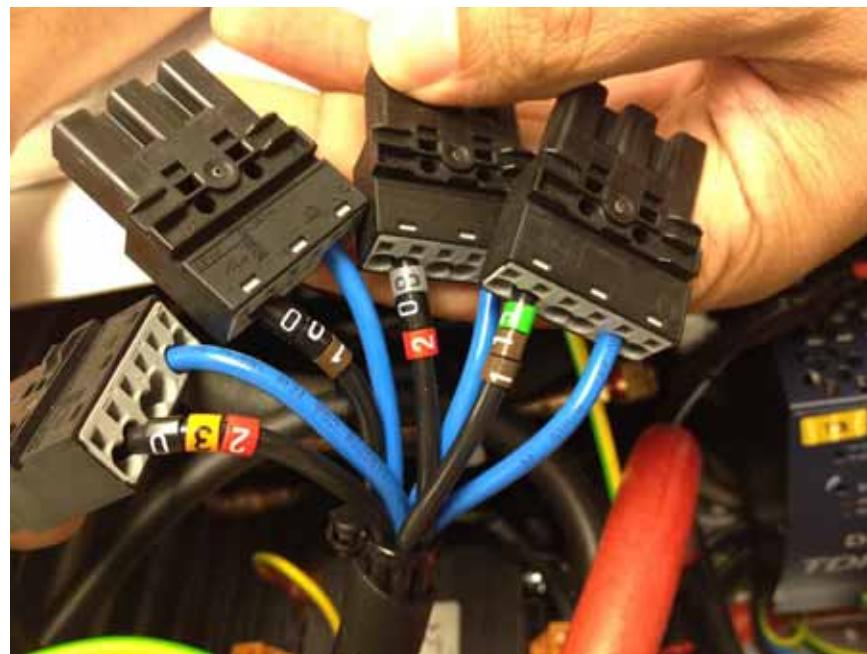

Figure 3-3. P307 Chiller Voltage Inputs (230VAC plug shown connected)
5. Check that the correct voltage plug is attached to the internal connector (see Figure 3-3 below). To change the input voltage detach the plug from the internal connector, detach the female protection connector from the selected voltage plug, and re-insert it for protection into the previous plug. Connect the selected voltage plug with the internal connector.